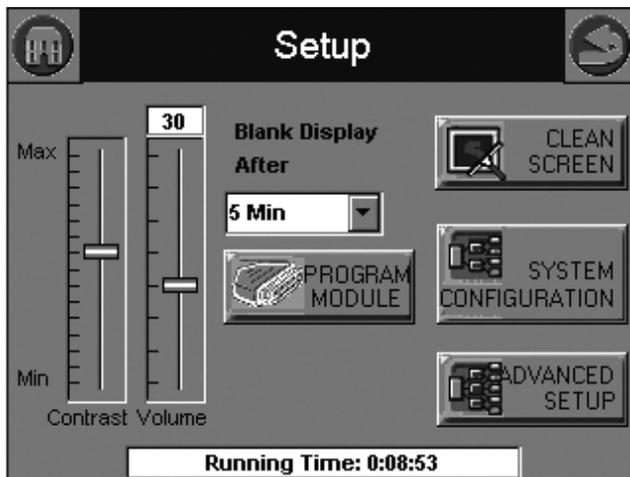

Fig. 2. Setup page.
5. Press the Setup button. The screen shown in Fig. 2 will appear.
6. Press the Program Module button on the Setup screen, as shown in Fig. 2.